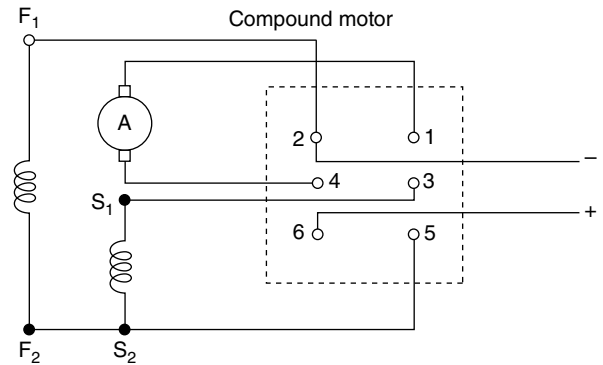

Fig. P-5
5. Using Fig. P-5, draw lines to complete the circuit between the switch terminals to cause the compound motor to run in the *forward* direction.